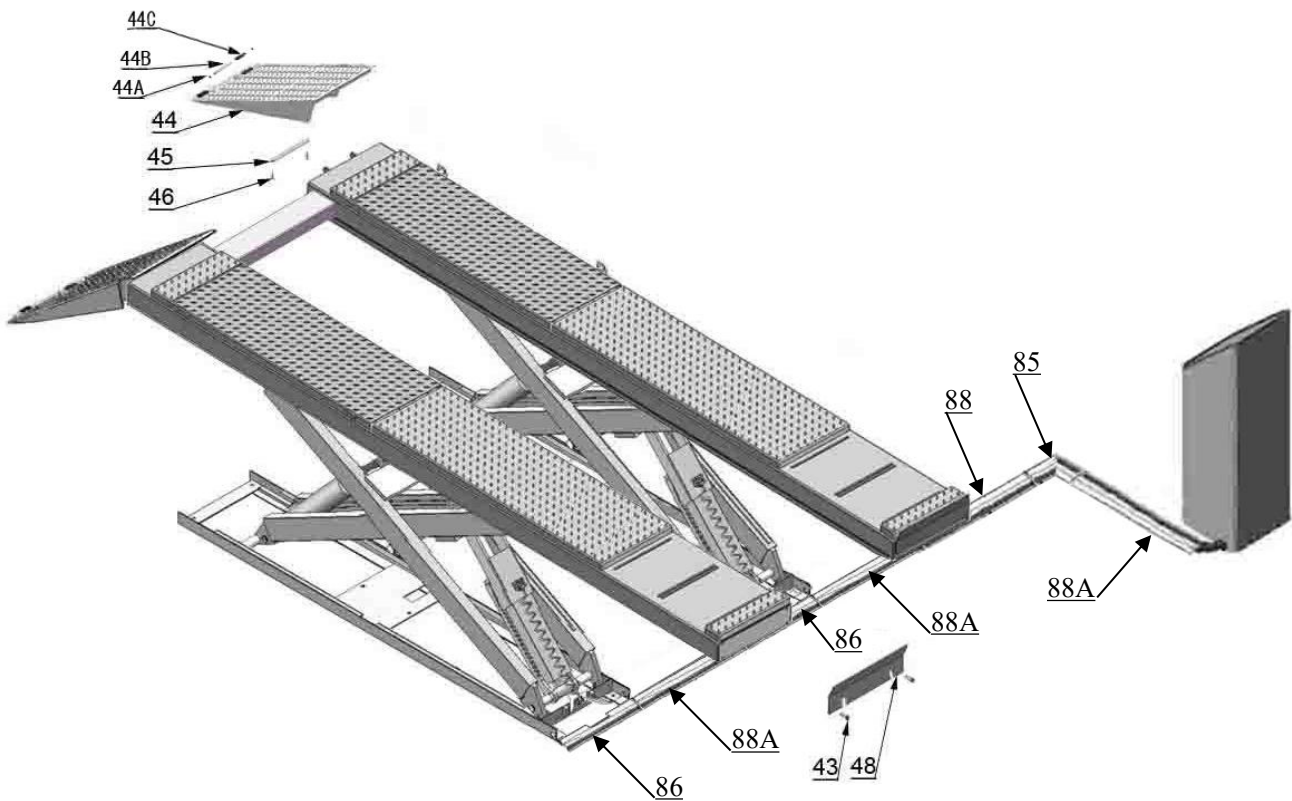

Fig. 6
1.3 Illustration of scissor lift **PX12A** on surface installation (**See Fig.6**).